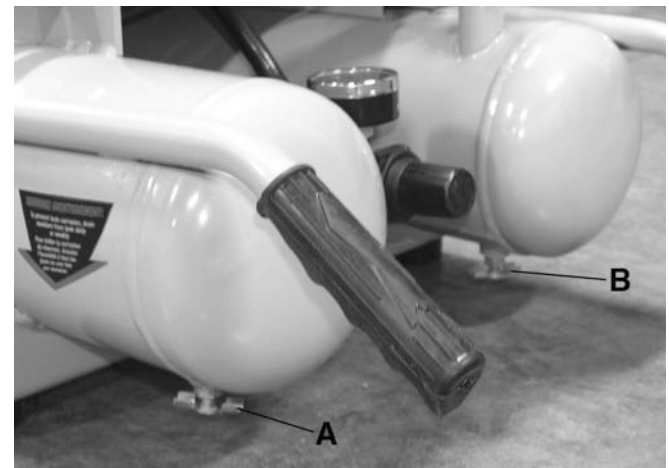

FIGURE 4
DRAIN VALVES (A & B) FIG.4. The drain valves are located underneath each end of the air tanks and are used to drain condensation at the end of each use. Turn drain valve clockwise to open (no tank pressure build-up) or counterclockwise to close it (pressure build-up).
- 3) Drain moisture/water from air tanks. Open drain valves (A & B) Fig.4, turn them clockwise to open.